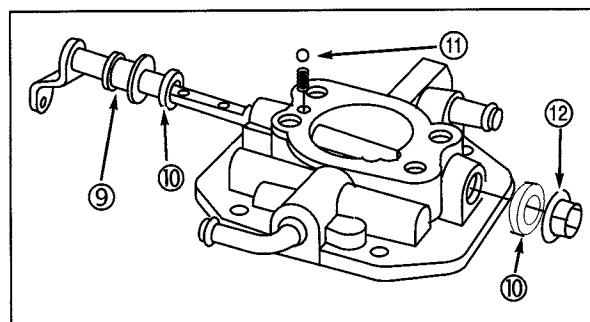

**Fig. 107**
3. Install new throttle shaft seals (5) with sealing lip out, **Fig. 107**.
4. Install throttle shaft with spacer (4) and foam seal (8).
5. Install foam seal (7) and retainer (6).